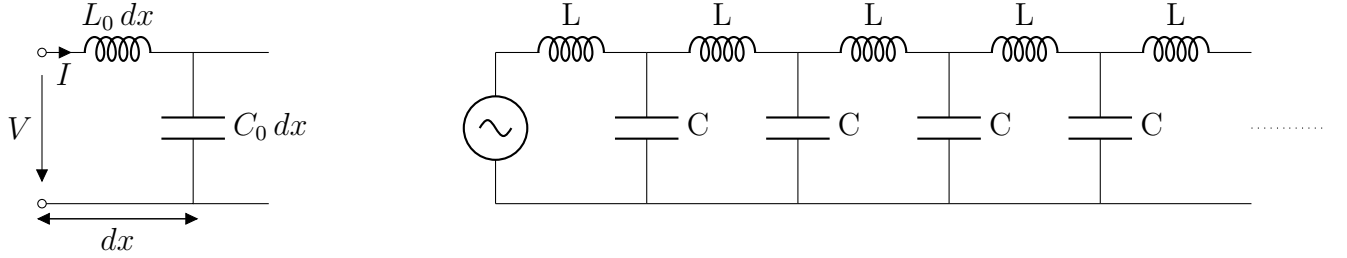

Figure 1: (left) basic unit of an ideal transmission line, (right) an ideal transmission line
Transmission lines are discrete ladder-like networks of inductors (L) and capacitors (C) capable of storing and transmitting electric and magnetic energy. The basic unit of an ideal transmission line is an LC element of length dx and zero electric resistance (see Figure 1).